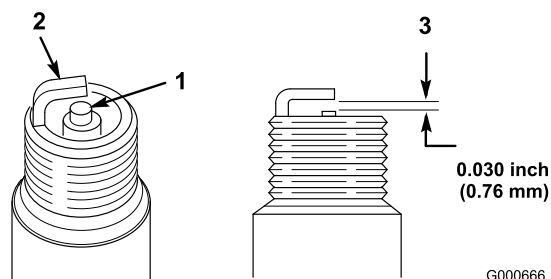

Figure 29
1. Look at the center of the spark plug (Figure 29). If you see light brown or gray on the insulator, the engine is operating properly. A black coating on the insulator usually means that the air cleaner is dirty.
2. Check the gap between the center and side electrodes (Figure 29) and bend the side electrode if the gap is not correct.